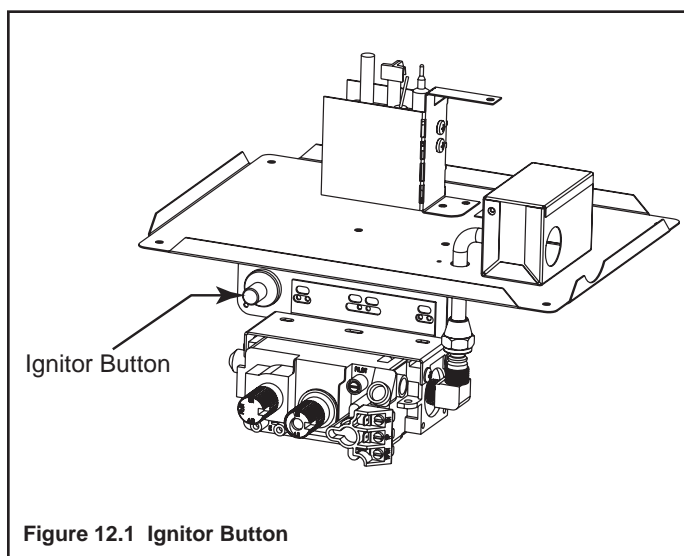

Figure 12.1 Ignitor Button
- A red or black ignitor button (as shown in Figure 12.1) indicates this appliance is standing pilot ignition.